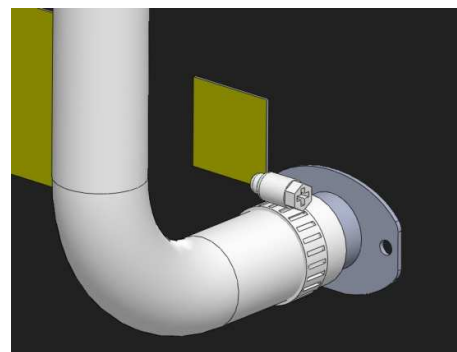

Figure B.7.2
- Discharge pipe may be connected with hose clamp. (Figure B.7.2)